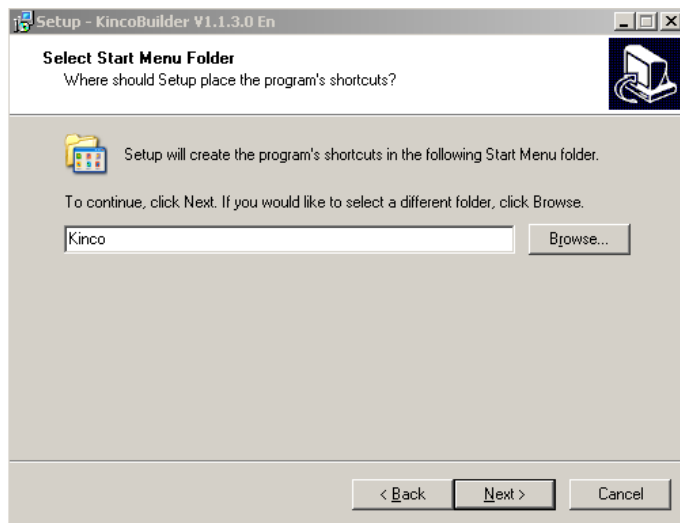

Figure 3-3
- ③ Click *Next*, continue to select a Start Menu folder to save the shortcut, the default folder is “KINCO”, as shown in Figure 3-3: